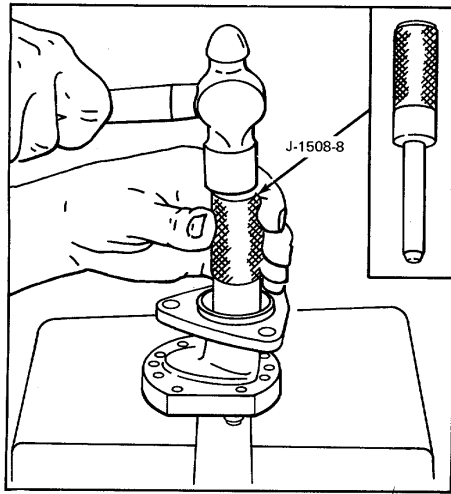

Figure 6. Installing Inner Oil Seal
b. With the pump body supported on woodblocks (Fig. 6), insert the pilot of the installer handle in the pump body so the seal starts straight into the pump flange. Then drive the seal in until it bottoms.